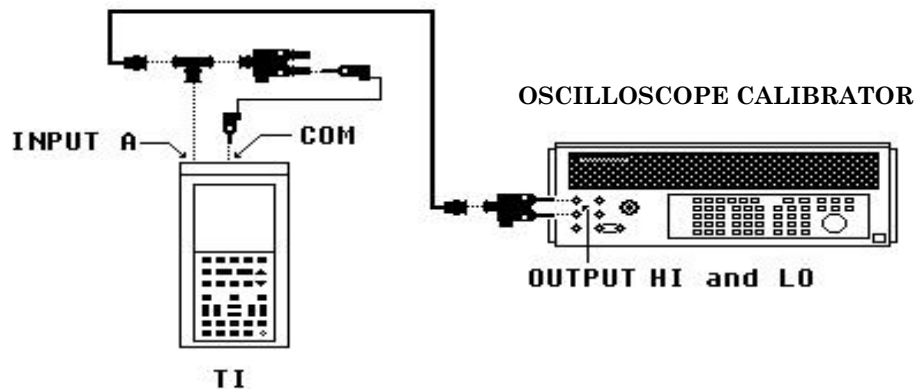

Figure 5. Meter dc voltage.
(1) Connect equipment as shown in figure 5 below: